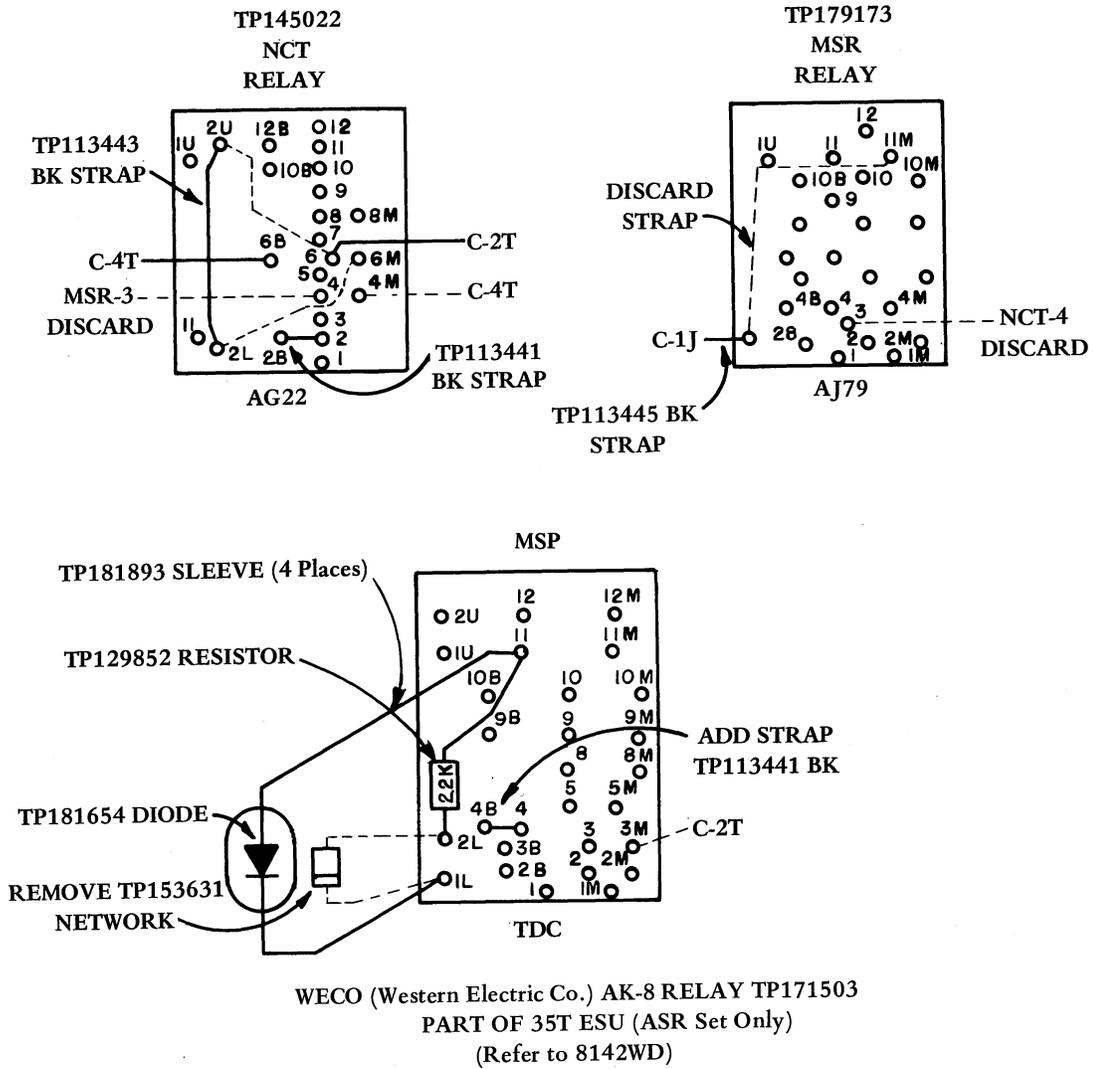
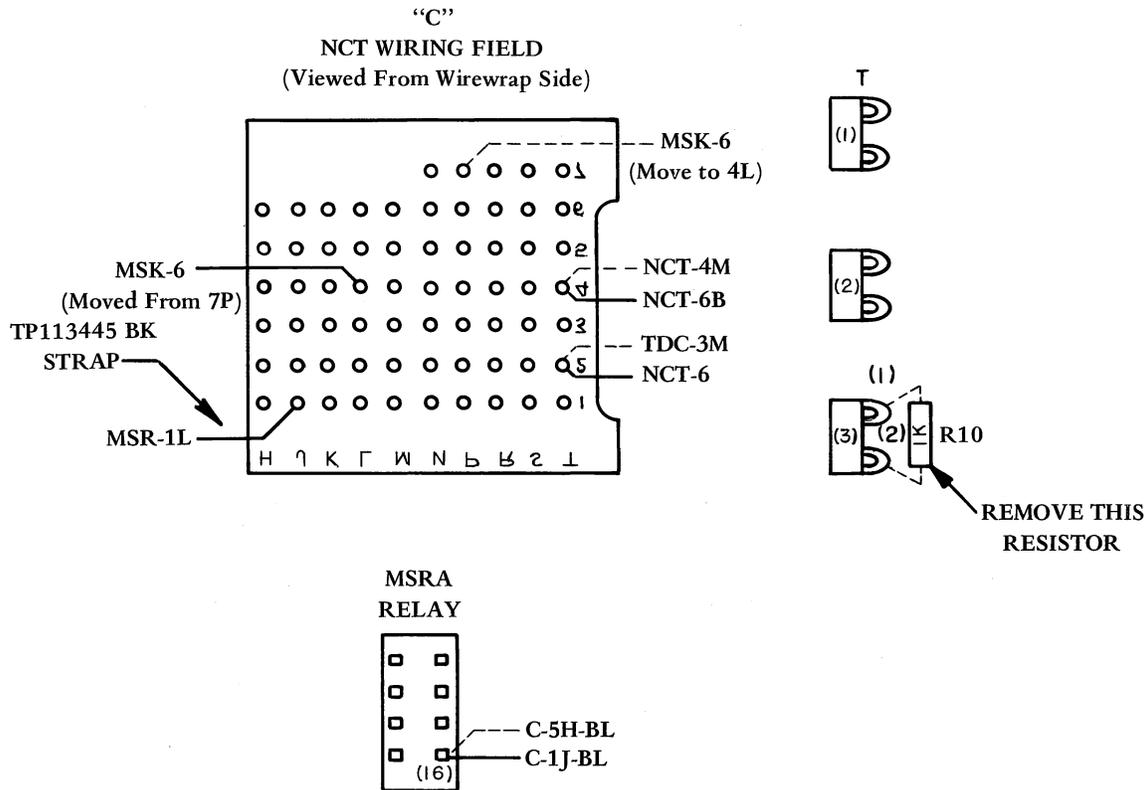

Figure 12 - 35T ESU Relay Wiring
Figure 13 - 35T ESU Wiring Field
4.19 With ESU upside down, remove and discard the following green wires (Figure 12):
Solder diode TP181654 to TDC-1L (cathode end) and other end at MSP-11. Slip TP181893 sleeves on resistor and diode leads before soldering resistor (2.2K) TP129852 to MSP-11 and TDC-2L (Figure 12). Move wire originating at MSK-6 from C-7P to C-4L. Remove 1000 ohm resistor R-10 between T3-1 and T3-2 (Figure 13).
4.20 Move the following wires to give control of the reperforator from DC2 (tape on) and DC4 (tape off) codes on line (Figures 12 and 13):
4.21 To operate the keyboard mounted reperforator automatically it is necessary to rewire relay MSR as shown in Figures 14 and 15. The reperforator will then automatically operate from on-line characters DC2 (tape on) when received only and DC4 (tape off) either transmitted or received. Remove and discard the following wires (Figure 12):